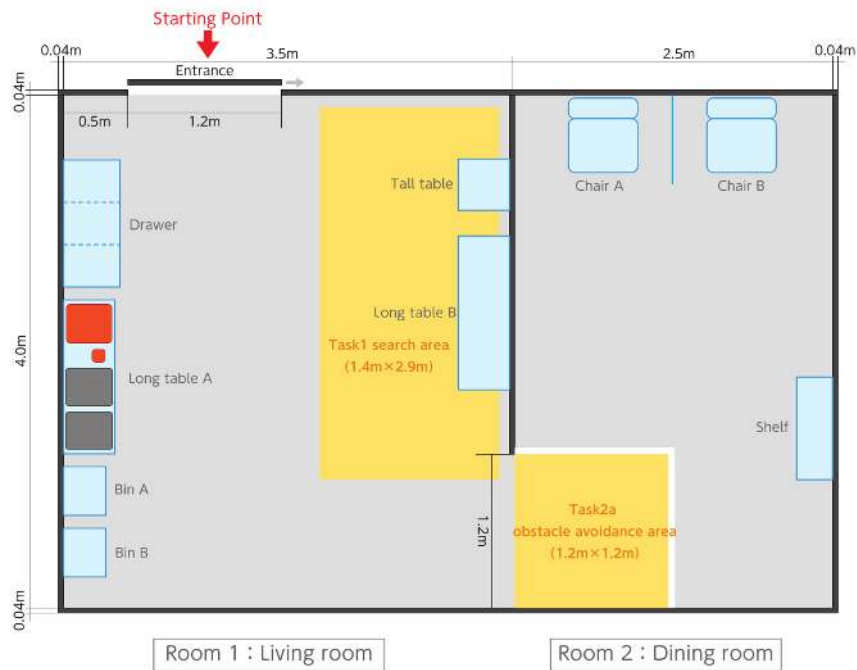

Figure 2: Test arena layout. The red arrow indicates the starting point at the beginning of the competition or after a restart.
- The room layout and furniture positions will be as in as in Figure 2 and the furniture models are presented in Appendix 4.1.
- Enters to any place in Room 2 (dining room) different than the obstacle avoidance area in Figure 2 while avoiding obstacles – the time starts counting when entering to Room 2 OR when the robot starts any action towards this goal (e.g. searching for objects in the access between rooms).